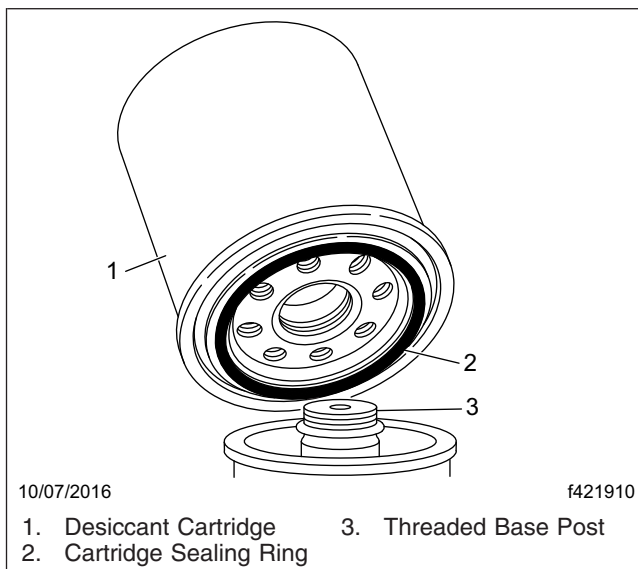

Fig. 3, Desiccant Cartridge Replacement
3. Using a strap wrench or equivalent, loosen the desiccant cartridge. See **Fig. 3**. Spin the cartridge off by hand and discard it.